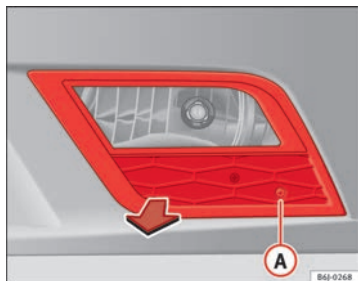

Fig. 166 Fog lights
- Remove the bolt ⇒ fig. 166 **A** from the fog light grill with a screwdriver.